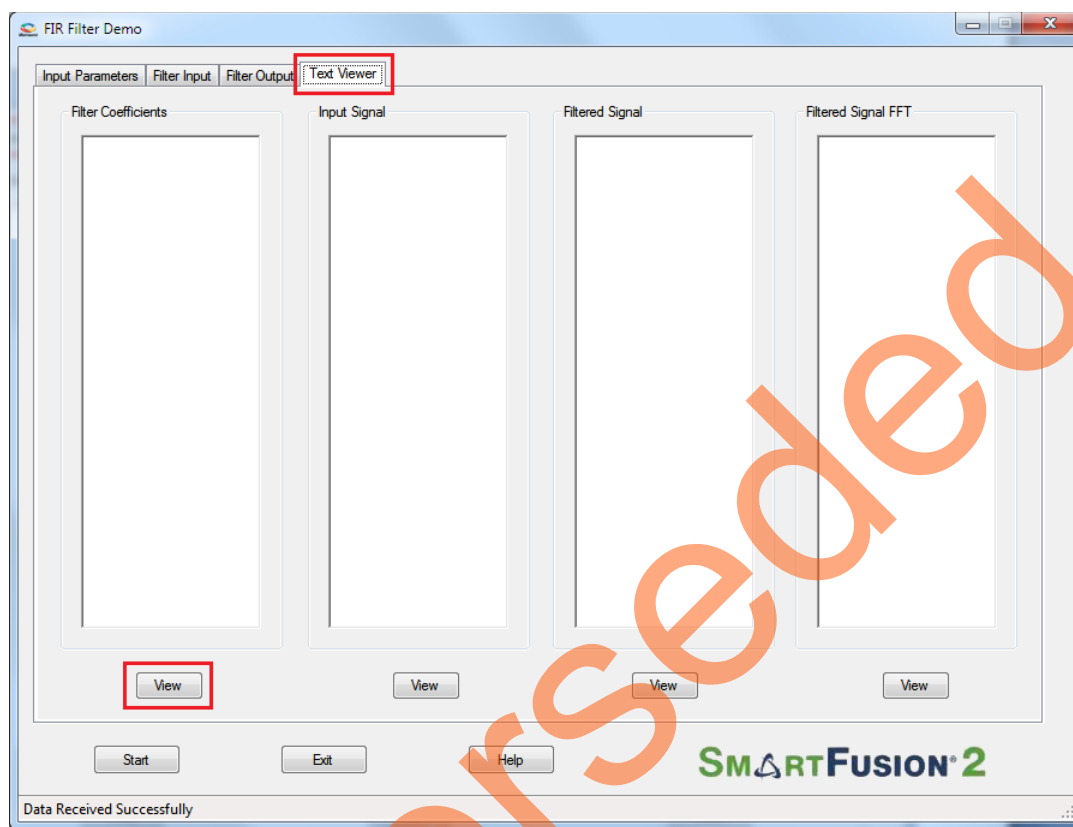

Figure 22 • Text Viewer
- The filter coefficients, input signal, output signal, and FFT output data values can be viewed in **Text viewer**. Click the **Text Viewer** tab and then click the corresponding **View** button as shown in Figure 22.